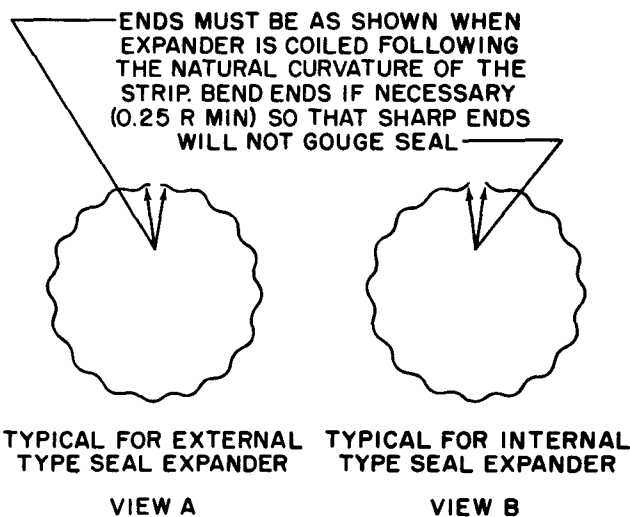

Fig. VI-18. Typical expanders for Teflon seal rings
(12) On assemblies which use Teflon seal rings and expanders, coil the expanders as shown in fig. VI-18 to make sure that the sharp ends are turned away from the seal.